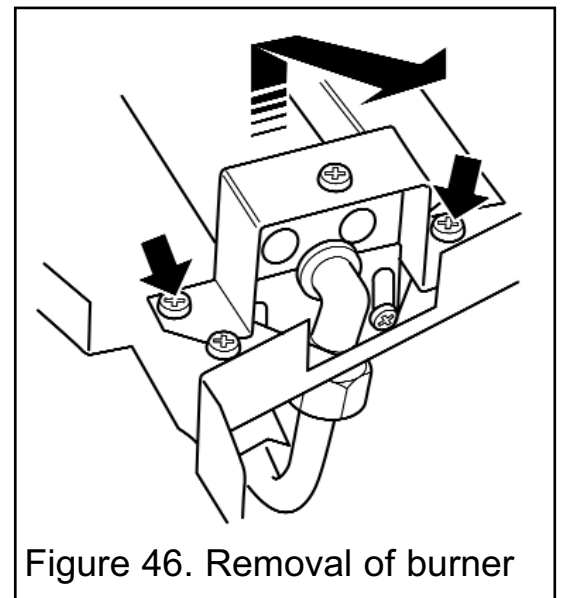

Figure 46. Removal of burner
(See figure 46).
3. Remove the two screws from the burner clamping plate (See figure 46).